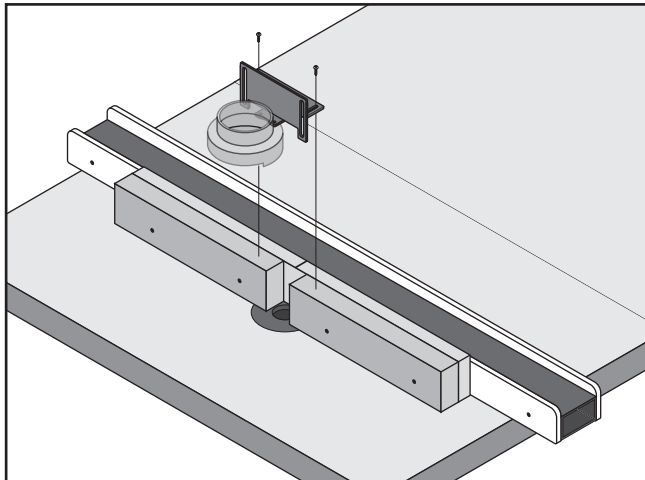

Figure 29. Attaching router guard.
- Center the guard over the table opening and attach the guard assembly to the top of the fence boards with the two provided wood screws, as shown in **Figure 29**.